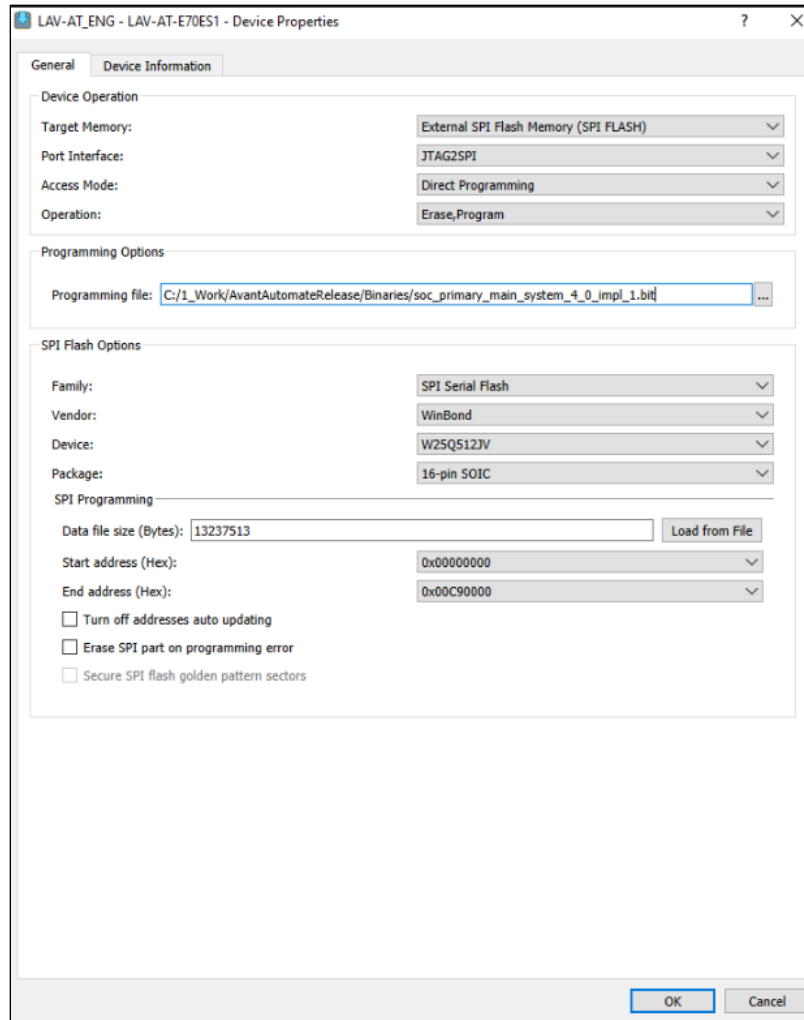

Figure B.7. Radiant Programmer – Program Primary Main System Bitstream
9. To program the bitstream file, select the options as shown in Figure B.7.